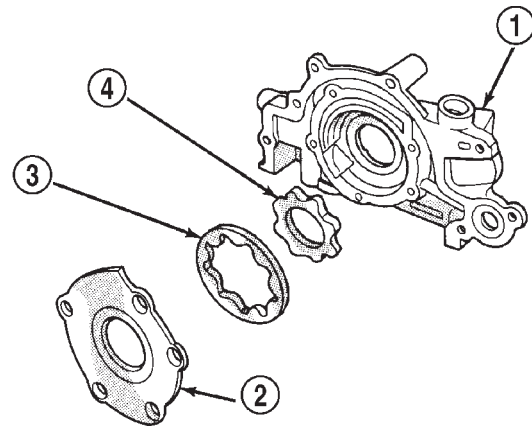

Fig. 128 Checking Oil Pump Cover Flatness
(1) Clean all parts thoroughly. Mating surface of the oil pump should be smooth. Replace pump cover if scratched or grooved.
(2) Lay a straightedge across the pump cover surface (Fig. 128). If a 0.076 mm (0.003 inch.) feeler gauge can be inserted between cover and straight edge, cover should be replaced.